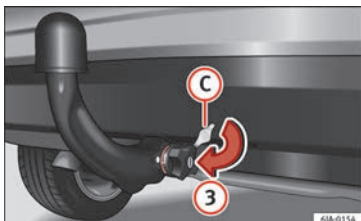

Fig. 103 Placing the key slot cover.
- Place cover **(C)** over the manual regulator lock in the direction of arrow **(3)** **»» Fig. 103**.